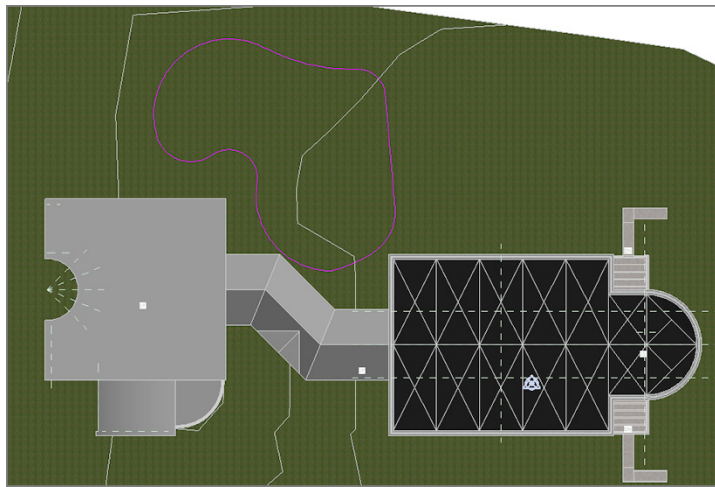

FIGURE 18.8: The split surface sketch
4. Zoom in on the corridor area that links the east and west wings, as shown in Figure 18.8.
6. Sketch a perimeter similar to the one in Figure 18.8.